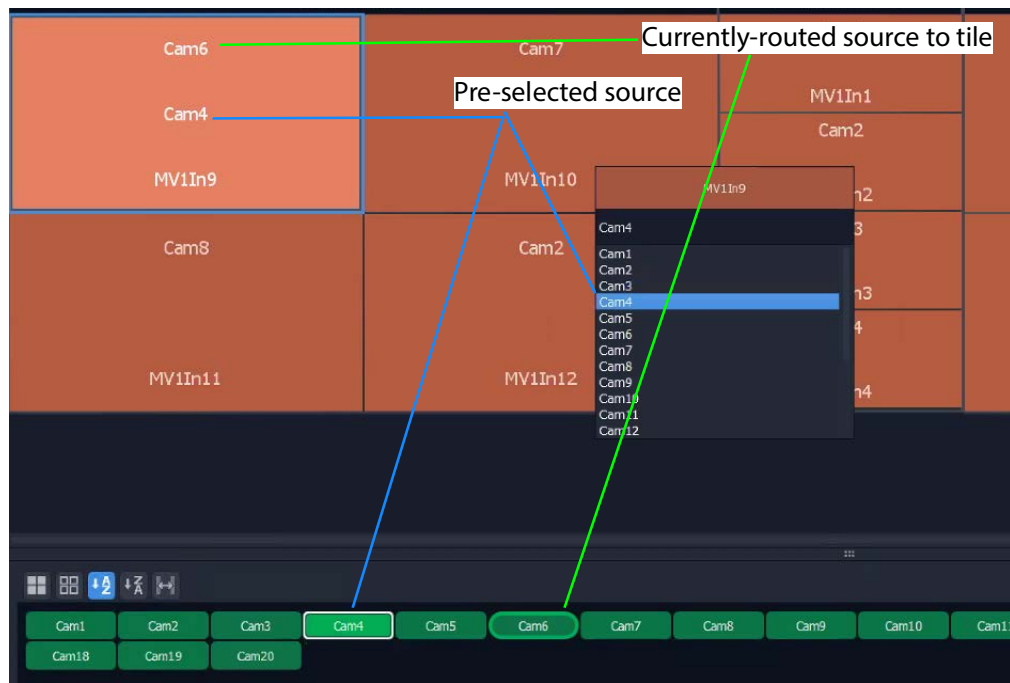

Fig. 15-86: Select Source
- 3 To pre-select a source to be routed and make the route (see Figure 15-86), either: